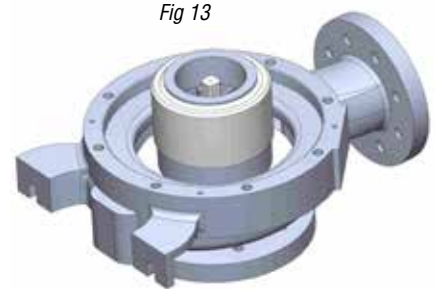

Fig 13
- Place the casing/barrier assembly on a table with the suction flange of the casing facing down. Carefully remove the barrier assembly from the casing. When pulling the barrier assembly out of the casing, the shaft may stick in the barrier. If this happens, make sure that the shaft does not drop out when the barrier assembly is removed or damage may result. See figure 13.